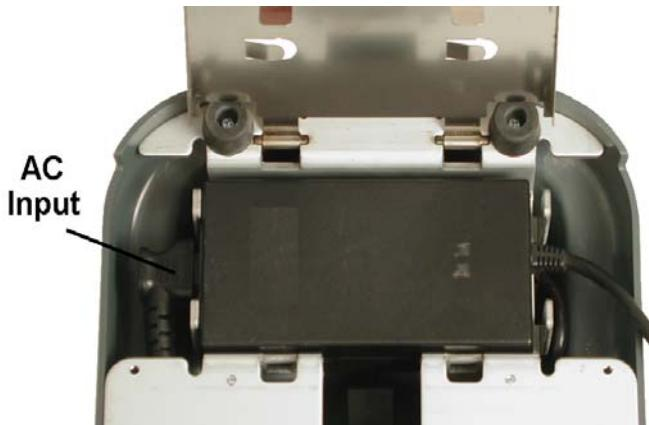

Figure 4-6: Installing the Optional Printer Power Supply
1. Install the optional Printer Power Supply, if required. Refer to Figure 4-6. Open the power supply compartment door and attach the AC power connector to the power supply. Close the compartment door.